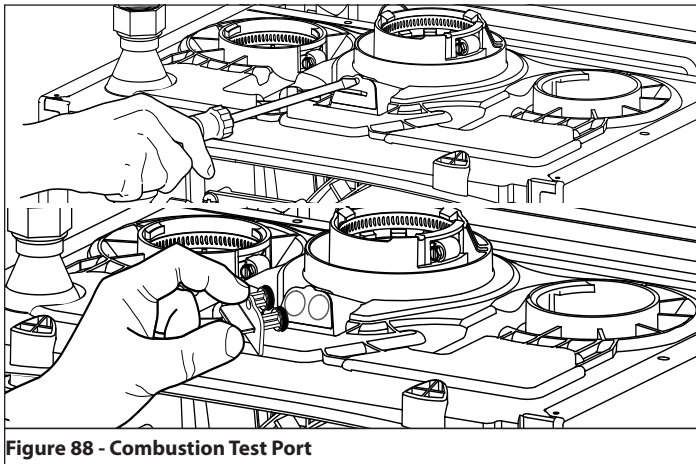

Figure 88 - Combustion Test Port
5. Reinstall the combustion test port - see Figure 88.